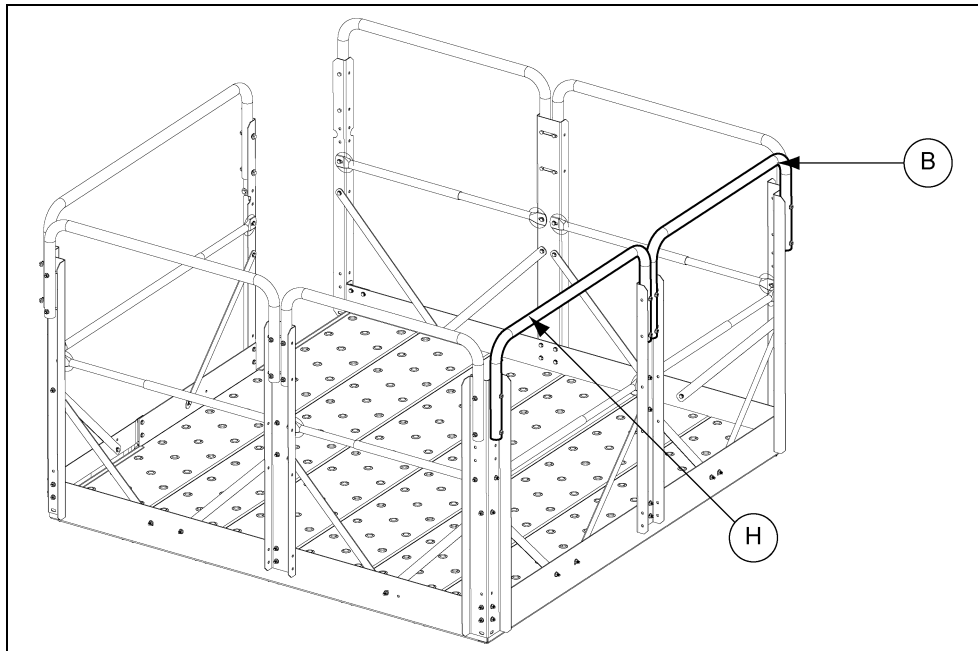

Figure 13M
Attach hatch outside handrail (HP1648HLH) (H) from “W” corner post to platform post and back side handrail (DSP3036H32) (B) from platform post to next “W” corner post using 5/16" bolt (S-7877) (J) and 5/16" flange nut (S-3611) (K). (See Figure 13M.)